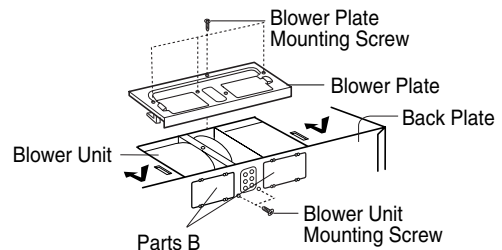

Figure 25
6. Reattach blower unit to microwave oven. Attach with the one blower unit mounting screw and then the one or several blower plate mounting screw(s). See Figure 25.